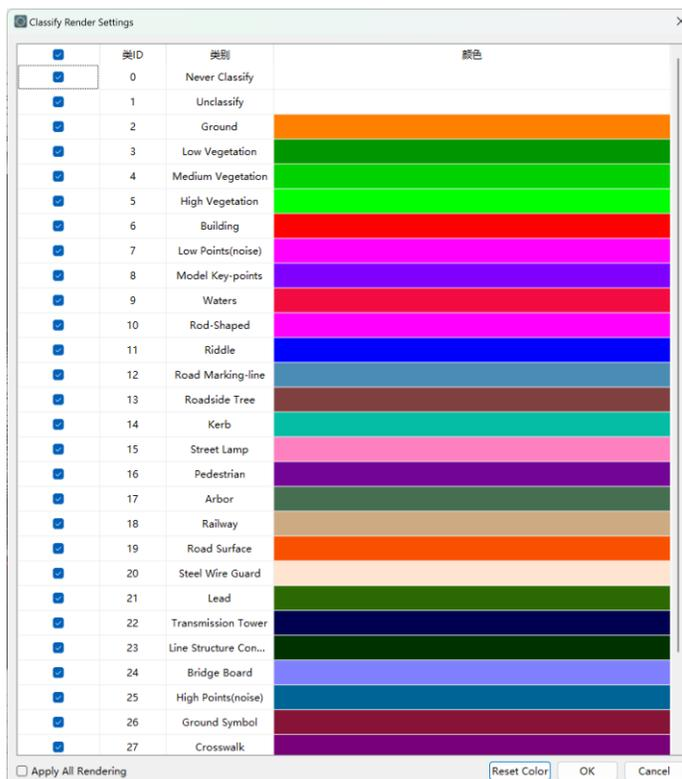

Figure 3-19 Classify Rendering setting
- (1) Selecting <Category Rendering Settings> opens a dialog box (Figure 3-19) with 25 point cloud categories to set colors and toggle rendering via checkboxes.
- (2) Click <OK> to apply the settings, instantly updating all relevant views. <Reset Color> restores default colors.
- (3) Clicking the icon or the button  in the view window's title bar renders the point cloud in the current view based on the selected category's colors.